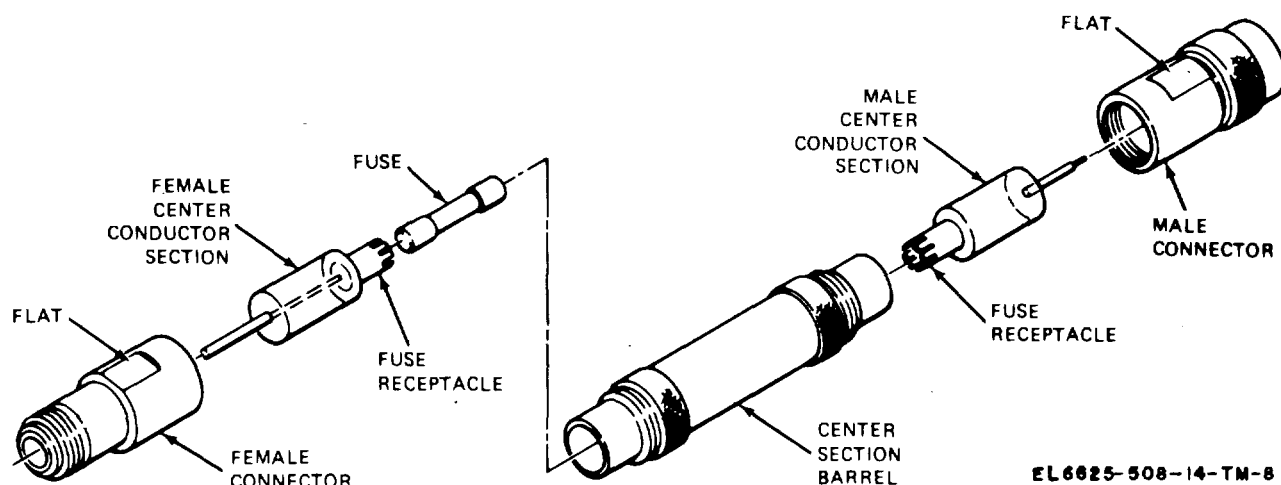

Figure 4-2. Fuseholder MX-1730/U, exploded view
(1) Wrap center section barrel (fig. 4-2) with heavy cardboard.
(2) Clamp center section barrel and cardboard in a vise. To prevent denting center section barrel, tighten vise only enough to keep barrel from turning.
(3) Use two 11/16-inch open end wrenches on the flats to loosen the connectors.
(4) Unscrew and remove the two connectors.
(5) Remove the center conductor section from each end of the center section barrel.